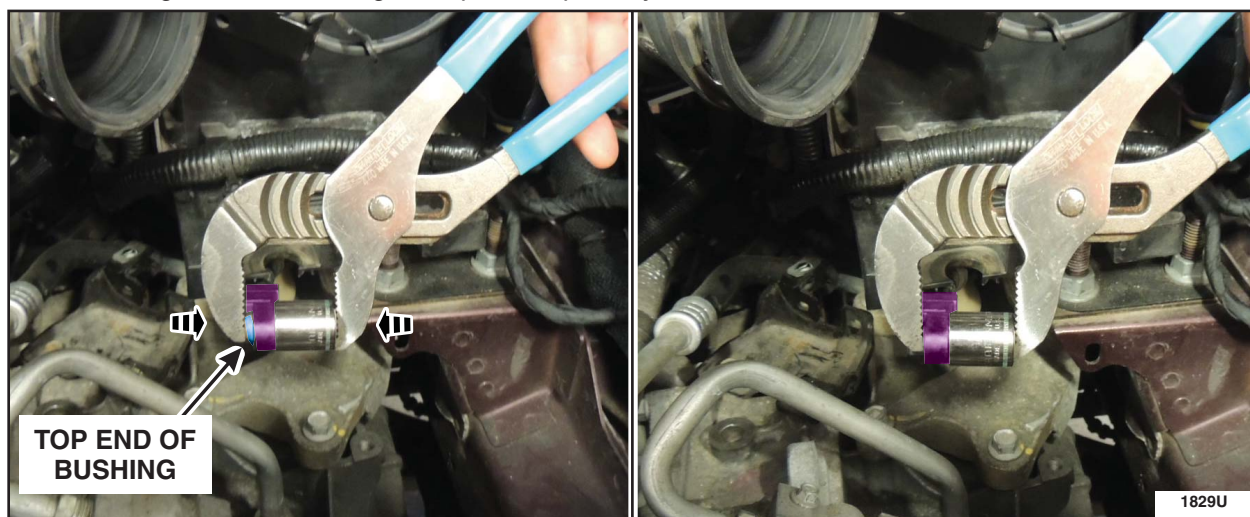

FIGURE 3
6. Using a pair of Straight Jaw Adjustable pliers and a 15mm shallow socket push the bushing partially out of the selector lever cable end. See Figure 3.